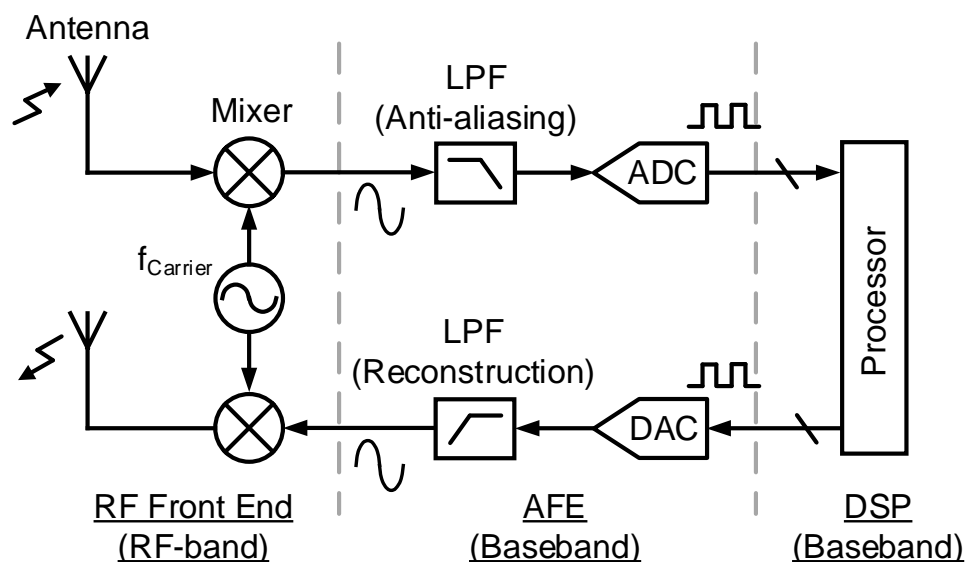

Fig. 1. The block diagram of a transceiver
In the modern wireless transceiver for mobile device, there are three parts including radio-frequency (RF) front end, analog front end (AFE), and digital signal processing (DSP) as shown in Fig. 1. To begin with the signal receiving, the RF front-end circuit receives the RF-band wireless signal by an antenna and then demodulates the RF-band signal to a baseband signal by a mixer. After that, in AFE, a low-pass filter (LPF) and an analog-to-digital converter (ADC) is applied to remove out-of-band distortions and digitizes the analog baseband signal, respectively. With the digital signal, lots of functions can be conducted in a DSP including arithmetic operation for specific application, encryption for security, and so forth. To transmit the result as a wireless signal, the DSP digital output is converted to an analog signal by a digital-to-analog converter (DAC) and then a LPF is applied to remove spurious high-frequency replicas. Next, a mixer and an antenna is applied to modulate the baseband signal into RF-band signal and emit the wireless signal, respectively.